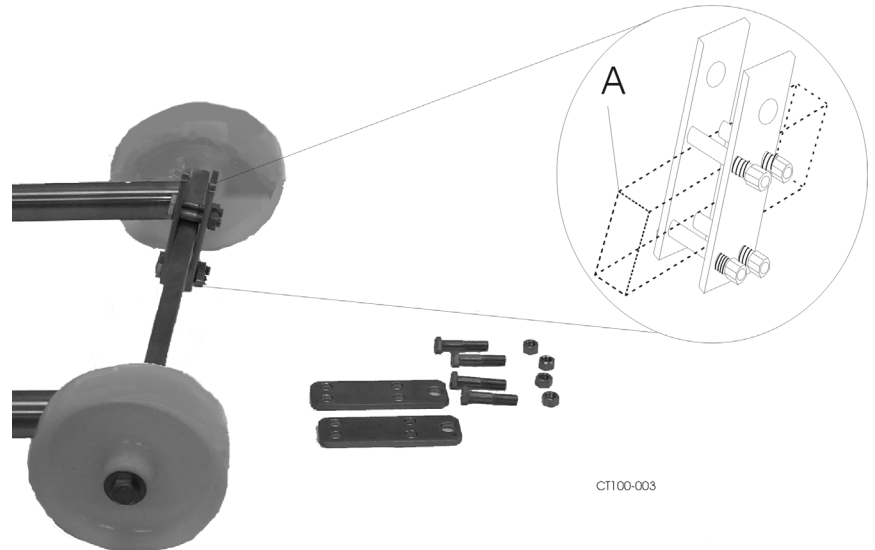

**Figure 2 - Wheel Assembly**
1. Assemble the Axle bolt (Figure 2, item E) with two Washers (items A and D) and the Axle Sleeve (item C) through the Wheel (item B).